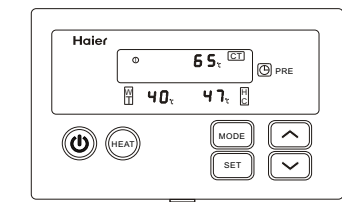

Fig.9 Temperature setting Interface for the first time Preset heating
- Indicating clock condition--to set hour of the first preset heating time in fixing time “①” --to set minute of the first preset heating time in fixing time “①” --to set temperature of preset heating in fixing temperature “①” --to set hour of the second preset heating time in fixing time “②” --to set minute of the second preset heating time in fixing time “②” ---to set temperature of the second preset heating in fixing temperature “②” ---indicating clock condition. For example: to set the temperature of the first preset heating, and for the indication interface, see Fig. 9.